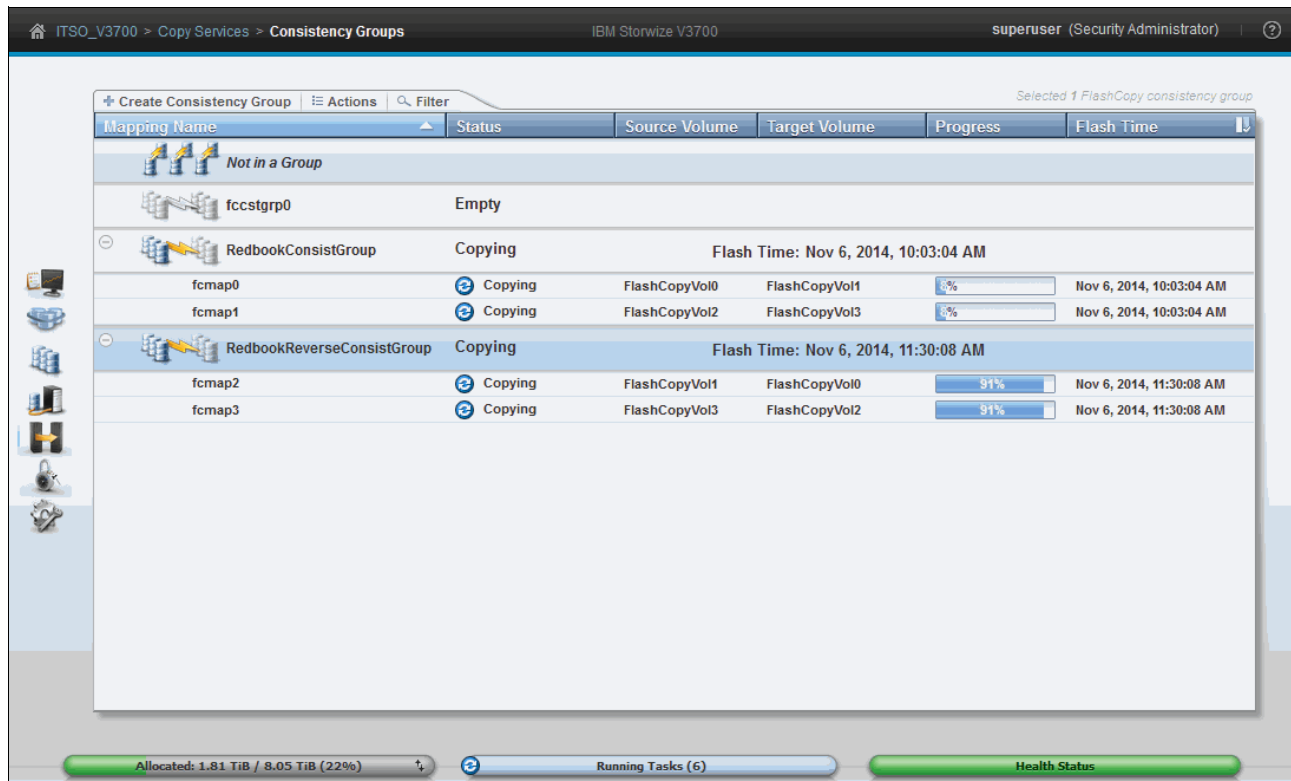

Figure 10-70 Consistency Group restored
7. Click **Close** and the command pane returns to the Consistency Group window. The reverse consistency group is now reported as Copying, as shown in Figure 10-70. The progress reported is the opposite of the original mappings, because the direction is reversed. The restore process is now complete, and the original data from the snapshots is available on the source volumes.